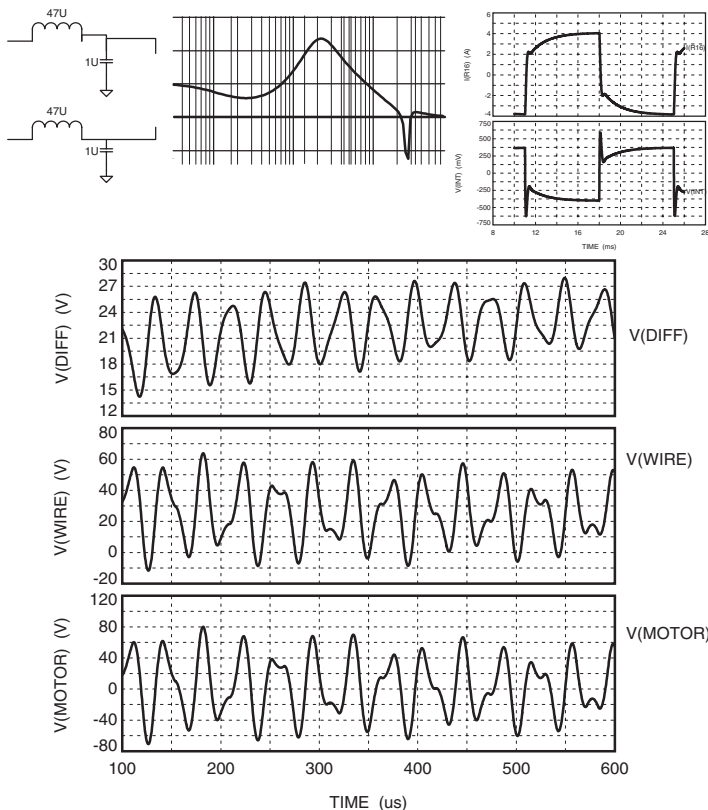

FIGURE 31. RESPONSE AND WAVEFORMS WITHOUT THE MATCHING NETWORK
- Omission of the matching network brings on high harmonic content in both the motor waveform and on the wires leading to the motor, plus it increases the peak-to-peak amplitude of these two waveforms about 2.5 times. Note the time scale difference on the motor waveforms in Figure 31. A major frequency seen here is around 25KHz as opposed to the 42KHz of the other figures. If peak voltage across the motor is 50V, ~0.75A will flow in the motor. This means power loss and heating will be above optimum.